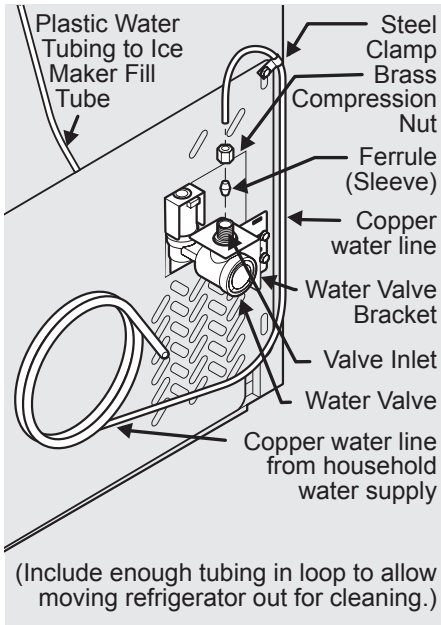

Figure 1
- 4 **If you use copper tubing** - Slide brass compression nut, then ferrule (sleeve) onto water supply line. Push water supply line into water valve inlet as far as it will go (¼ inch/6.4 mm). Slide ferrule (sleeve) into valve inlet and finger tighten compression nut onto valve. Tighten another half turn with a wrench; DO NOT over tighten. See Figure 1.